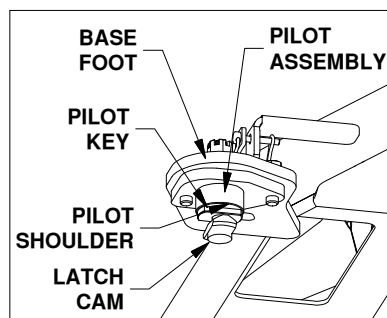
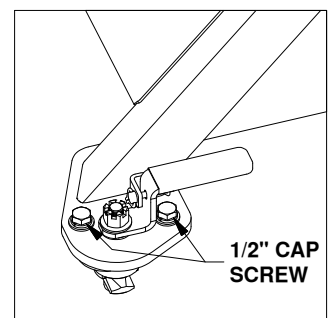

Figure C3: View under base foot
Figure C4: View of a base foot.
- Align pilot assemblies.** Each leg of the Companion base has an adjustable pilot assembly which is attached to the foot with two 1/2" cap screws, as shown in Figure C3. To adjust the pilot assemblies that do not fit into the attachment points, loosen both the 1/2" cap screws so the pilot assembly can move freely, see Figure C4. Set the base over the attachment points and adjust the pilot assemblies until the pilot keys pass through the slot in the attachment points and the pilot shoulders rest flat against the top of the attachment points. When all the pilot assemblies are aligned and inside the attachment points, push the base toward the cab and use a tape measure to verify that the base is approximately square with the truck bed. Tighten any loose cap screws to 80 ft-lbs.